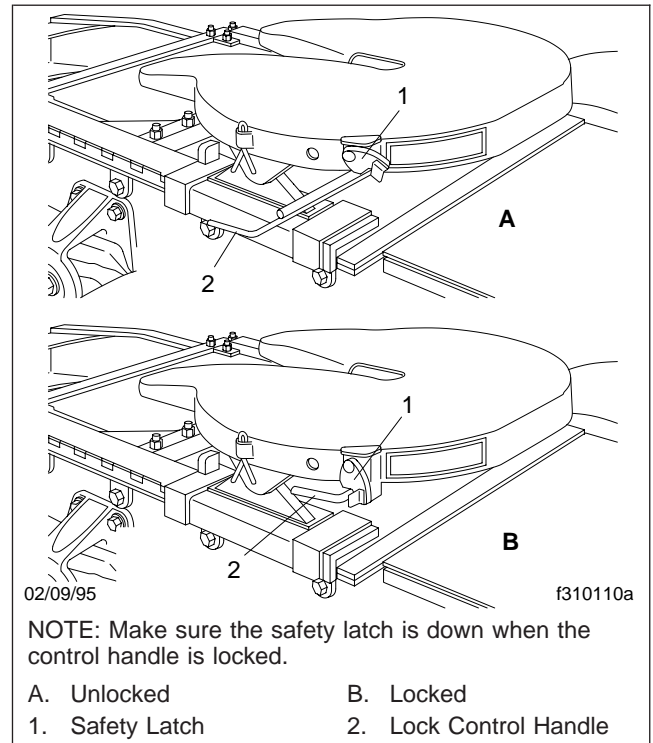

Fig. 10.19, Fontaine 5000 Series Fifth Wheel, Locking and Unlocking
- Make a visual and physical check for positive kingpin lockup. When lockup has occurred, the fifth wheel control handle will have moved to the locked position. Make sure that the safety latch is down over the lock control handle. See **Fig. 10.19**. This will hold the control handle in the locked position.
6. Release the kingpin locking mechanism by lifting the safety latch and pulling the lock control handle to the unlocked position. See Fig. 10.19.